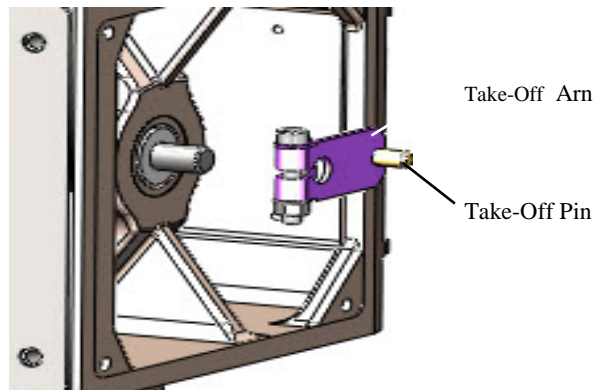

Figure 6: MaxFlo Take-Off Arm
- 1 Slide the take-off arm onto the shaft. Insert the screw with star washer through the take-off arm and add the second star washer and nut. Tighten nut with socket so arm is lightly snug on the shaft but still able to rotate. This will be tightened after linkage is correctly oriented. (Figure 6)